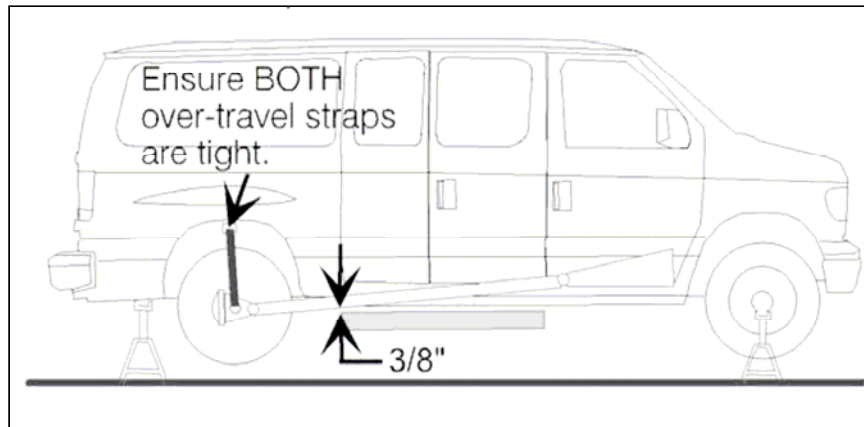

FIGURE 27: DRIVESHAFT ALLOWED TO DROP TO WITHIN 3/8" OF ENCLOSURE
4. Refer to **Figure 27**. Reposition rear stands so that vehicle height is maintained. Lower rear axle until the gap between enclosure and driveshaft is reduced to 3/8".